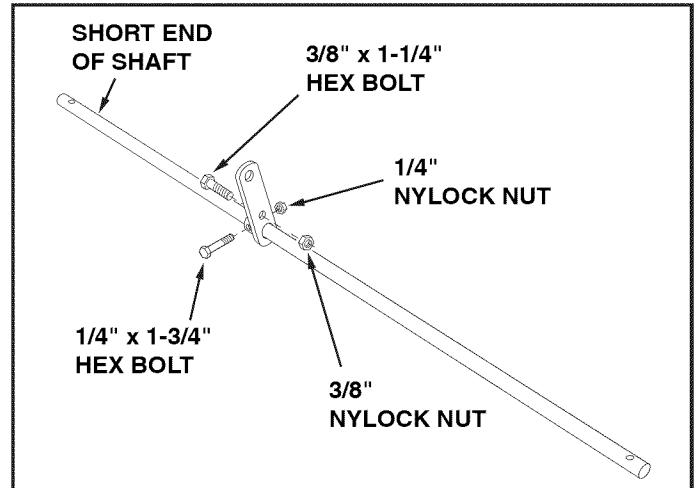

FIGURE 2
STEP 2: (SEE FIGURE 2)
- Place the lift handle through the slot in the tray. Fasten the lift handle to the smaller, inner hole in the middle wheel bracket using the bolt and nut which you pre-assembled earlier (figure 2). Fasten the lift handle to the larger, outer hole in the wheel bracket using a 3/8" x 1-1/4" hex bolt, the shoulder spacer, and a 3/8" nylock nut. Tighten both nylock nuts.